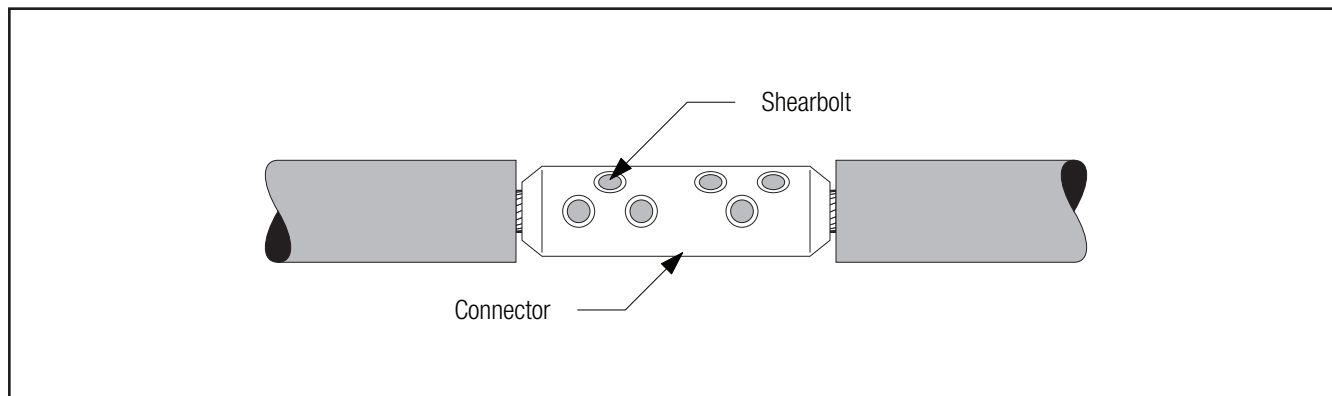

Figure 13
- 4.2** Install 3M™ Shearbolt Connector QCI 2-250 according to the instructions included with the connector (Figure 13).